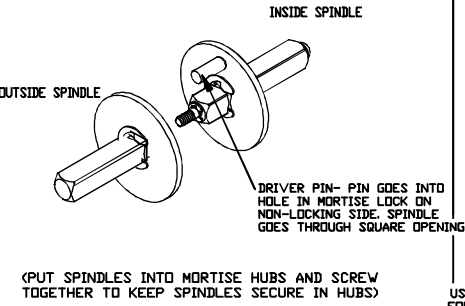

FIG 2
4. SLIDE THE SPRING CAGE ON THE OUTSIDE SPINDLE <SEE FIG 5>. SLIDE OUTSIDE LEVER ASSEMBLY ONTO THE MORTISE WITH POSTS GOING THROUGH THE MORTISE THROUGH HOLES AND LINED UP WITH THE SPRING CAGE LEGS. SEE FIG 2 & FIG. 5.
5. ON THE OPPOSITE SIDE- PUT THE 2 MOUNTING SCREWS THROUGH HOLES ON THE ROSE- SEE FIG 2. ALIGN THE SCREWS WITH THE POSTS AND TIGHTEN.
10. LEVER HANDING- CHANGE MOUNTING POST POSITION TO CHANGE HANDING - SEE FIG 2 FOR RH. SEE MORTISE HANDING CHANGE INSTRUCTIONS TO CHANGE MORTISE HANDING. NOTE: DRIVER PIN IN ON NON-LOCKING SIDE <SEE EXPLODED VIEW>.